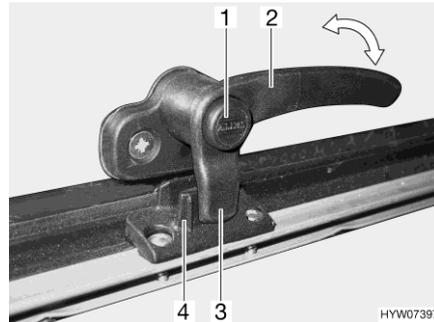
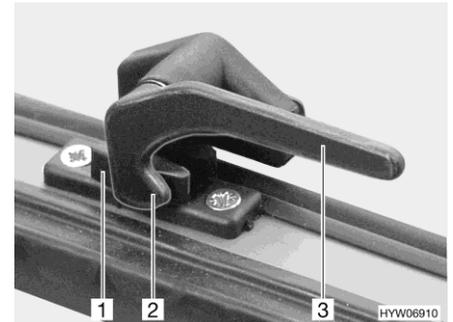

Fig. 77 Catch lever with safety knob in "closed" position
Fig. 78 Catch lever in "closed" position
- Press and hold the security button (Fig. 77,1), if present.
- Turn the catch lever (Fig. 77,2 or Fig. 78,3) a quarter turn towards the centre of the window.
- Turn the catch lever (Fig. 77,2 or Fig. 78,3) a quarter turn towards the window frame.
The locking catch (Fig. 77,3 or Fig. 78,2) on the catch lever is entirely on the inner side of the window catch (Fig. 77,4 or Fig. 78,1).
- "Firmly closed" (Fig. 77 and Fig. 78)